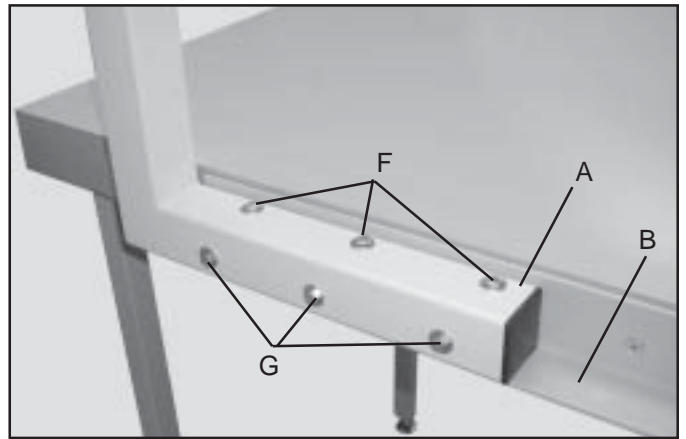

Fig. 15
14. Fasten the mounting bracket (A) Fig. 15, to the back rail (B) using the three 2-3/4" long hex head screws (F), three 3-3/4" long hex head screws (G), twelve 1/4" flat washers and six 1/4-20 hex nuts. Place one flat washer on each hex head screw before inserting through the guard mount bracket. Then place the remaining washers on the hex head screws and secure with the six 1/4-20 hex nuts.